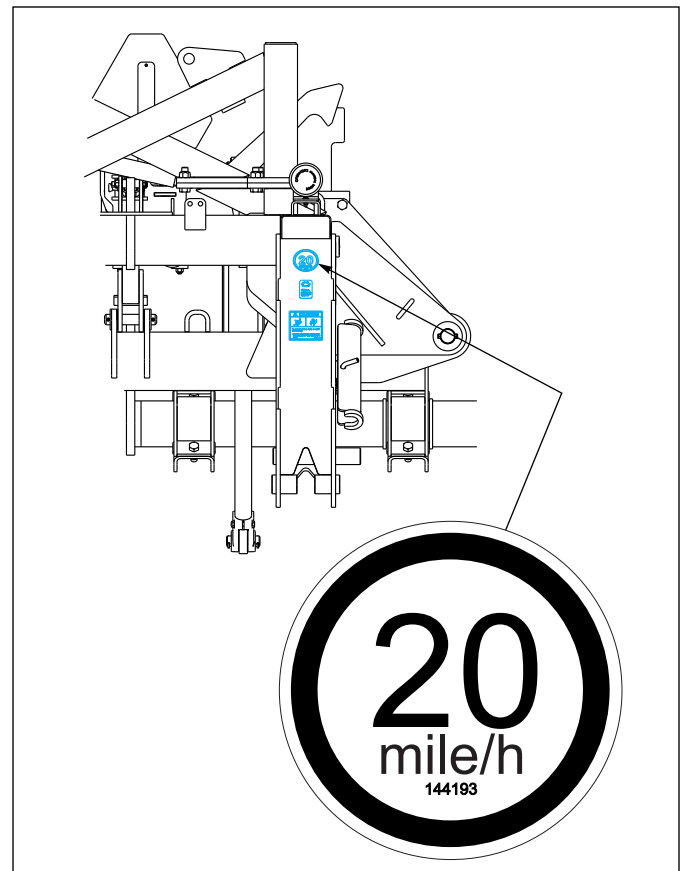

Figure 3-15 Maximum Speed Limit Identification Symbol
2. The Pulvi-Mulcher should be transported only by tractor required for field operation. The implement weight should not exceed more than 1.5 times the tractor weight. Maximum transport speed for the Pulvi-Mulcher is 20 mph for the implement and is designated on the speed identification symbol located on the front of the implement (See Figure 3-15.)